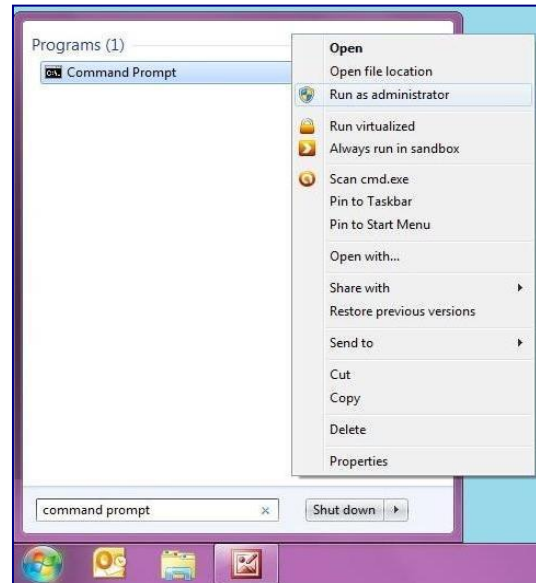

Fig 1.1.2b: Opening the Command Prompt in Windows 7®
- b. For later versions of the Windows operating system you will need to have Administrator privileges in order to run the Command Prompt in "Elevated" mode (see Fig 1.1.2b):